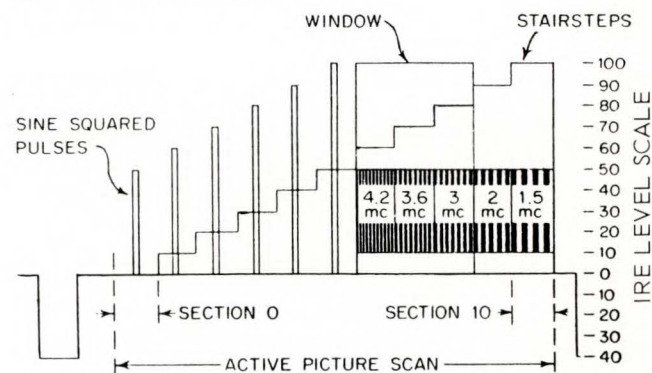

Fig. 4. Composite waveform. Waveforms shown at line rate sweeps.
Section 1.2 of RP10 lists the numerous operating adjustments that can be checked with this alignment tape. Besides making the usual skewing and scalloping adjustments, the alignment tape offers a daily routine observation of overall machine performance. Figures 4, 5, 6, and 7 correspond to the bands as described on Page 5. The photos were taken from the Video Output test point at the Processor of an Ampex VR 1000B as viewed on a Model 545A Tektronix Scope which was synced from the System Sync jack in the Processor. Malperformance of amplitude linearity and high and low frequency response can easily be observed.
Bands 1 through 4 (Fig. 4)
- 2.2 The waveform of the composite signal shall appear as shown in Fig. 4.